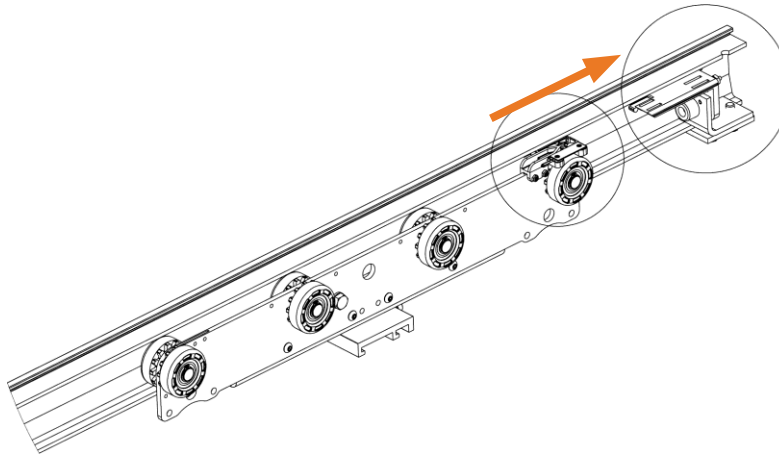

Figure 22: ***Charging Contacts Facing the Charging End of the Track***
- b. For endstop charging, make sure the charging contacts face the charging end of the track (Figure 22).